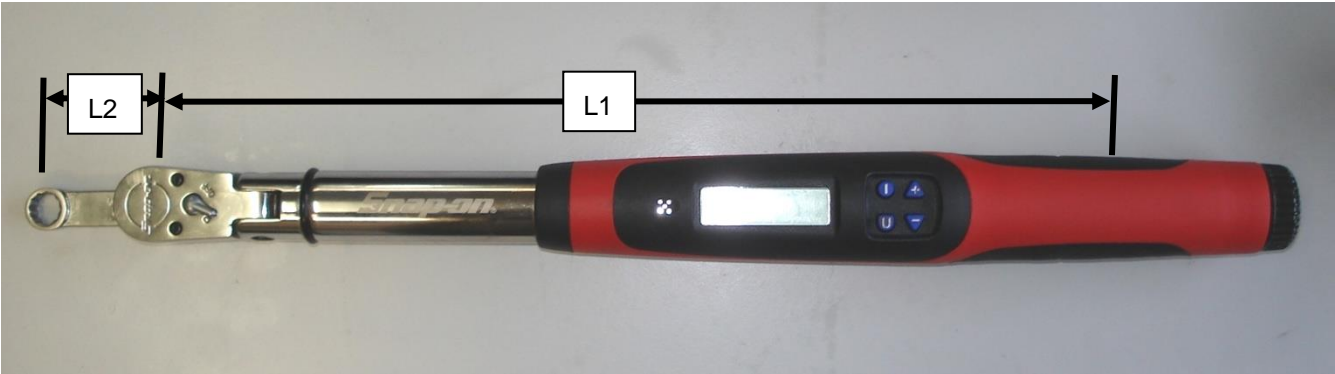

Figure 38 – Torque Wrench & Crowsfoot Adaptor Setting 1
- A “Crowsfoot” extension as shown in Figure 31 is also necessary – it allows high torque settings to be used on small nuts without damaging them. The crankcase through bolt nuts used on Jabiru engines are a good example of an application suitable for a crowsfoot extension. However, when using the extension as shown in Figure 38 the extra length will throw off the torque setting of the wrench. This must be corrected using the following formula:
- For example: a nut needs to be tensioned to 30lb.ft. The torque wrench is 12” long and the crowsfoot extension is 2” long. The extension is oriented as shown in Figure 38. This means that the torque wrench must be set to: